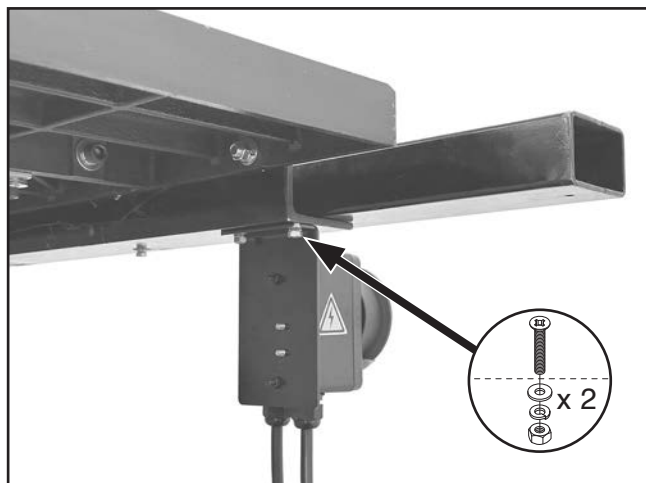

Figure 21. ON/OFF switch secured to long front rail.
7. Attach ON/OFF switch to left-hand side of long front rail with (2) M6-1 x 15 flat head screws, 6mm flat washers, and M6-1 hex nuts from G0899 inventory (see **Figure 21**).